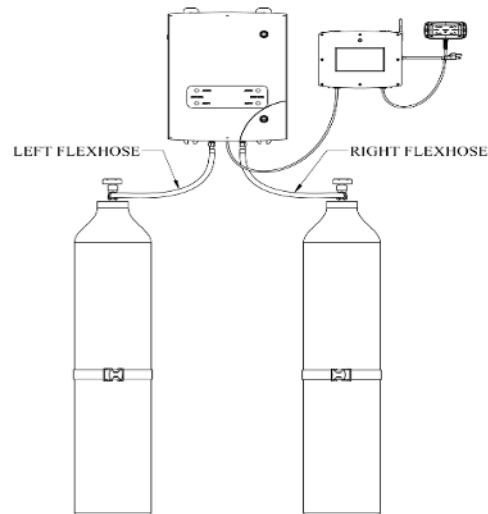

Figure 2 – Two Cylinder Setup
1. Attach the flexible hoses (pigtailed) to the right and left side inlet connections on the Mechanical Enclosure as shown in Figure 2. The manifold inlets are located at the bottom of the Mechanical Enclosure.